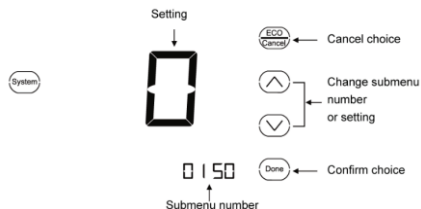

Fig. 22-3.
2. Press \wedge or \vee key to cutover submenu, and press System key enter submenu. Under submenu use \wedge or \vee to set parameters. See Fig. 22-3.